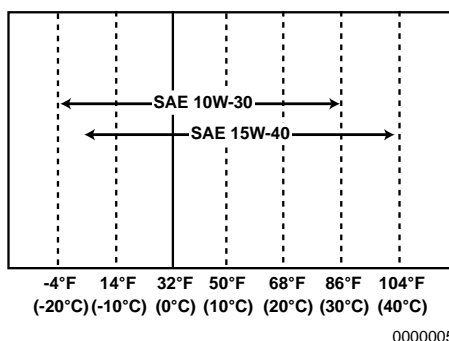

Figure 5
3. **Select the oil viscosity based on the ambient temperature where the engine is being operated. See the *SAE Service Grade Viscosity Chart (Figure 5)*.**
Select the appropriate engine oil viscosity based on the ambient temperature shown in the SAE Service Grade Viscosity Chart in **Figure 5**.